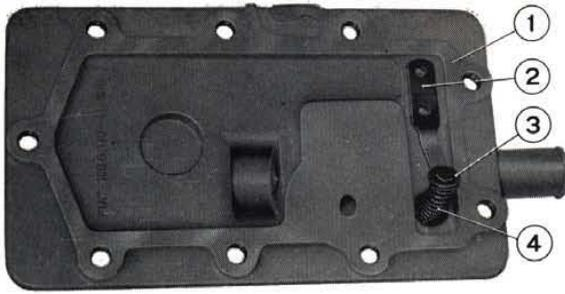

Fig. 587 - Underside view of valve cover.
- remove transmission cover, complete with oil pressure regulating valve and return spring (3 and 4, fig. 587);
Make sure that the contact face on plunger valve cover (1, fig. 587) is perfectly clean and free from scratches. Check the gasket for wear or damage and steel backing plate for distortion; if any damage is found, replace cover.
- position return spring (4, fig. 587) onto oil pressure regulating valve (3) in the recess;